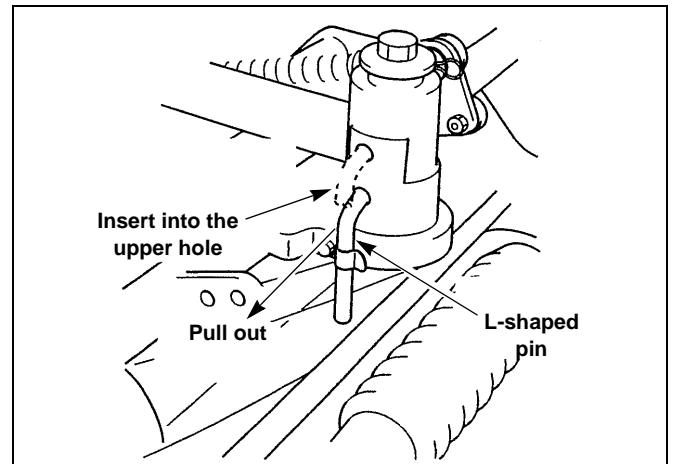

Figure 4-64
1. Lower the cutting unit on a flat ground and pull out the L-shaped pin. Figure 4-64
2. Insert the L-shaped pin into the upper hole. If it cannot be easily inserted, move the steering angle of the cutting unit and try to insert it again. Figure 4-64